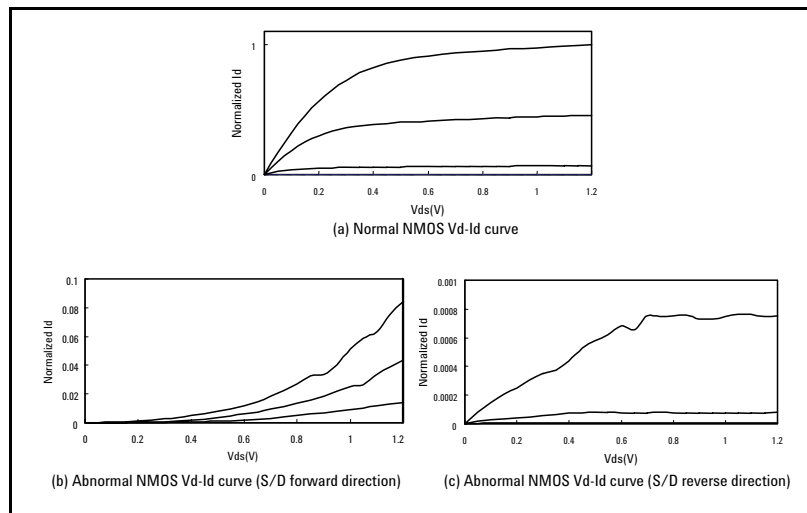

Fig. 3 Failure analysis data on dopant profile defect
In order to perform a more detailed analysis on the defective transistor it is necessary to measure the transistor by switching the roles of the source (S) and the drain (D). Figure 3 (a) shows normal transistor characteristics, and Figure 3 (b) shows the characteristics of the apparently bad transistor. Figure 3 (c) shows data measured by reversing the source/drain (S/D) of the transistor (note: this can be done very easily using the B1500A and does not require changing any device connections). In the case where the S/D is in the forward direction, only a digit less current than the normal value flows and the I-V curve shows a downward tendency. Conversely, in the case where the S/D is in the reverse direction, although the IV curve shows an upward tendency, less than 1/1000 of the normal amount of current is flowing.